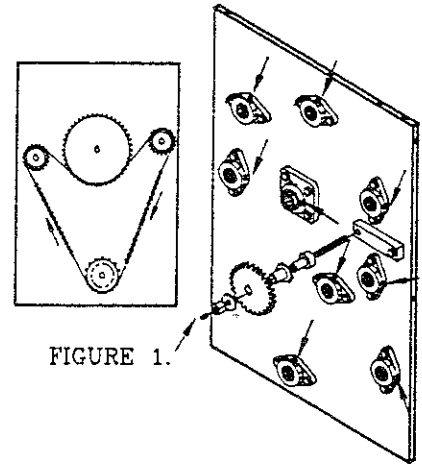

FIGURE 1.
LOCATE THE RIGHT SIDE OF THE MACHINE (FIGURE 1.). THIS SIDE WILL HAVE THE SINGLE DRIVE CHAIN. YOU WILL NOTICE THE NINE (9) BEARING FLANGES, EIGHT (8) TWO (2) HOLE FLANGES AND ONE (1) FOUR (4) HOLE FLANGE. WITH A GREASE GUN APPLY A SMALL AMOUNT OF GREASE TO THE FITTINGS. YOU WILL ALSO NOTICE A GREASE FITTING COMING OFF (PART# K203RS) NEAR THE MIDDLE OF THIS PANEL. THIS MAKES A TOTAL OF TEN (10) GREASE FITTINGS FOR THE RIGHT SIDE.